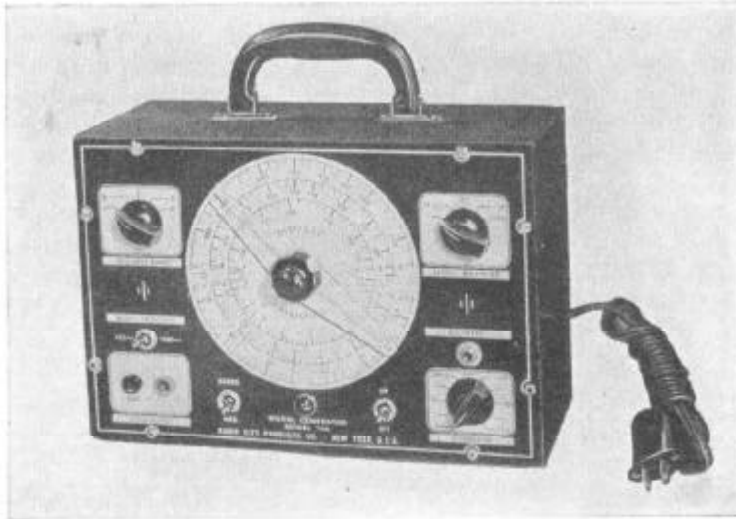

FIG. 6-5.—The Radio City Products signal generator, Model 704.
R.C.P. Model 704 Signal Generator.—The Model 704 signal generator produced by the Radio City Products Company (R.C.P.) is shown in Fig. 6-5. The large tuning dial is at the center of the front panel. Frequency coverage from 95 kc to 25 megacycles is performed in five bands, indicated as *A*, *B*, *C*, *D*, and *E*. The band-